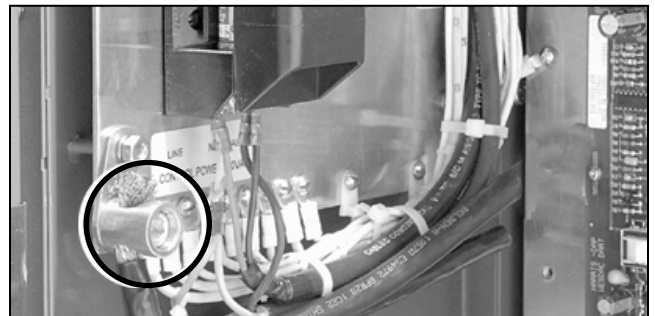

Figure 67. The copper lug and the fuse block.
- (g) Connect the heavy-shielded cable to the copper lug on the low-voltage enclosure grounding plate. See Figure 67.
To connect external control power, connect the line and neutral to the fuse block. See label under the fuse block. Refer to Figure 67.